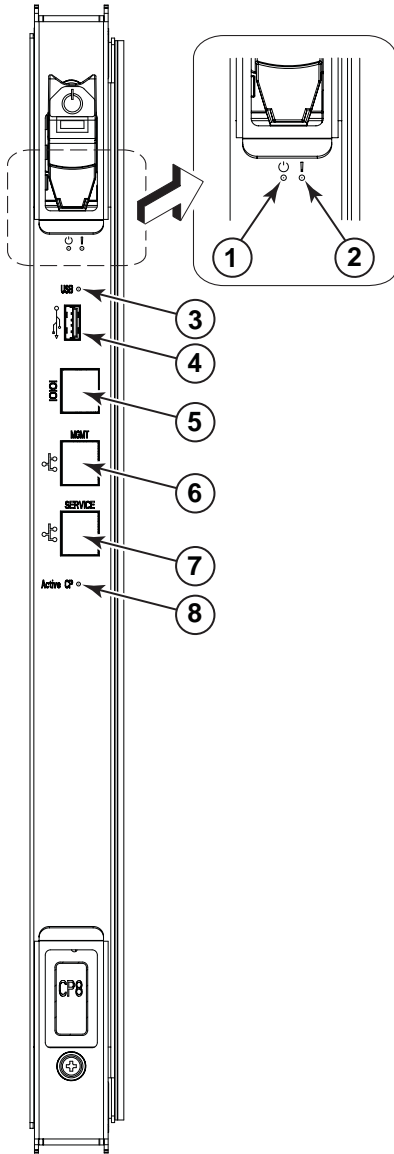

Figure 12. Control processor blade (CP8) components
1. Check the LED indicators on the CP blade (see Figure 12 on page 38). The LED patterns may temporarily change during POST and other diagnostic tests. For information about how to interpret the LED patterns, see Table 6 on page 38.
Figure 12 on page 38 identifies the control processor blade (CP8) and its components.